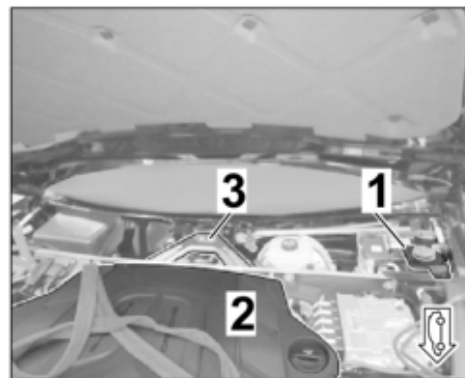

Figure 8
- 1.4.1 Remove the engine cover (design cover). ⇒ *Figure 8 -2- ⇒ Workshop Manual '108319 Removing and installing engine cover - T9I'*